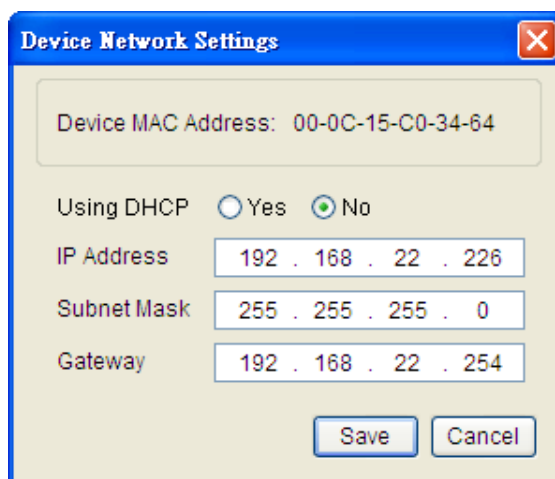

Figure 2. The setting window.
5. You can modify the IP Address, Subnet Mask, and Gateway address for the Device MAC Address listed in the Device Network Settings window, as shown in Figure 2. The default IP Address is 192.168.20.177 and the default Subnet Mask is 255.255.255.0.